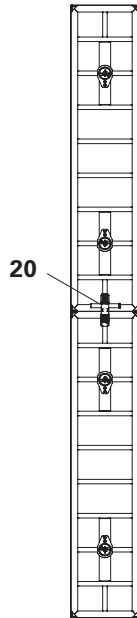

Fig. B7.01a
For extension units height ≤ 5.40 m, Alignment Couplers BFD (20) are to be used on panel joints. (Fig. B7.01a – B7.01d)